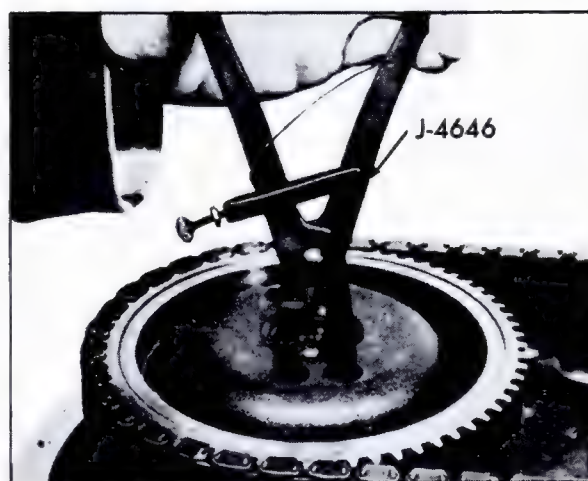

Fig. 7-162 Removing Sprocket Snap Ring
3. Install Snap Ring Pliers, J-4646, into sprocket bearing retaining snap rings located under the drive and driven sprockets, and remove snap rings from retaining grooves on support housings, Fig. 7-162.